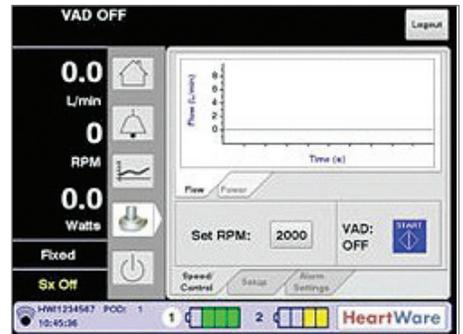

Figure 29: System Screen – VAD start
- ▶ VAD: OFF means the HVAD® Pump is NOT pumping; the button is BLUE and labeled START. To start VAD, press START (Figure 29).